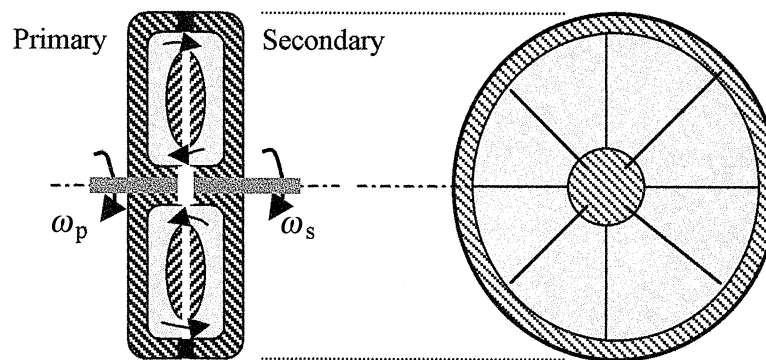

Fig. C11.6
**C11.6** An interesting turbomachine [58] is the *fluid coupling* of Fig. C11.6, which delivers fluid from a primary pump rotor into a secondary turbine on a separate shaft. Both rotors have radial blades. Couplings are common in all types of vehicle and machine transmissions and drives. The *slip* of the coupling is defined as the dimensionless difference between shaft rotation rates,  $s = 1 - \omega_s/\omega_p$ . For a given percentage of fluid filling, the torque  $T$  transmitted is a function of  $s$ ,  $\rho$ ,  $\omega_p$ , and impeller diameter  $D$ . (a) Non-dimensionalize this function into two pi groups, with one pi proportional to  $T$ . Tests on a 1-ft-diameter coupling at 2500 r/min, filled with hydraulic fluid of density 56 lbm/ft3, yield the following torque versus slip data: